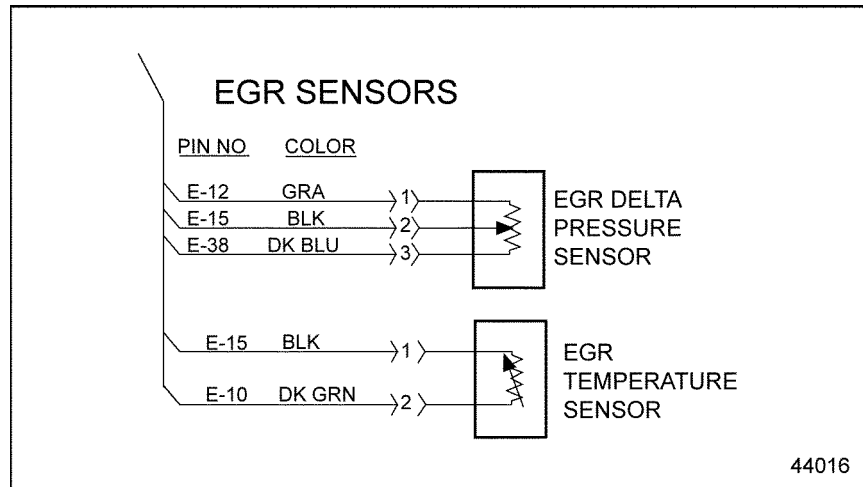

Figure 70-2 EGR Temperature Sensor Wiring
2. Install a jumper wire between cavities 1 and 2. See Figure 70-2.
4. Measure resistance between E-10 and E-15. See Figure 70-2.
2. Measure resistance between the engine block and E-10. See Figure 70-2.